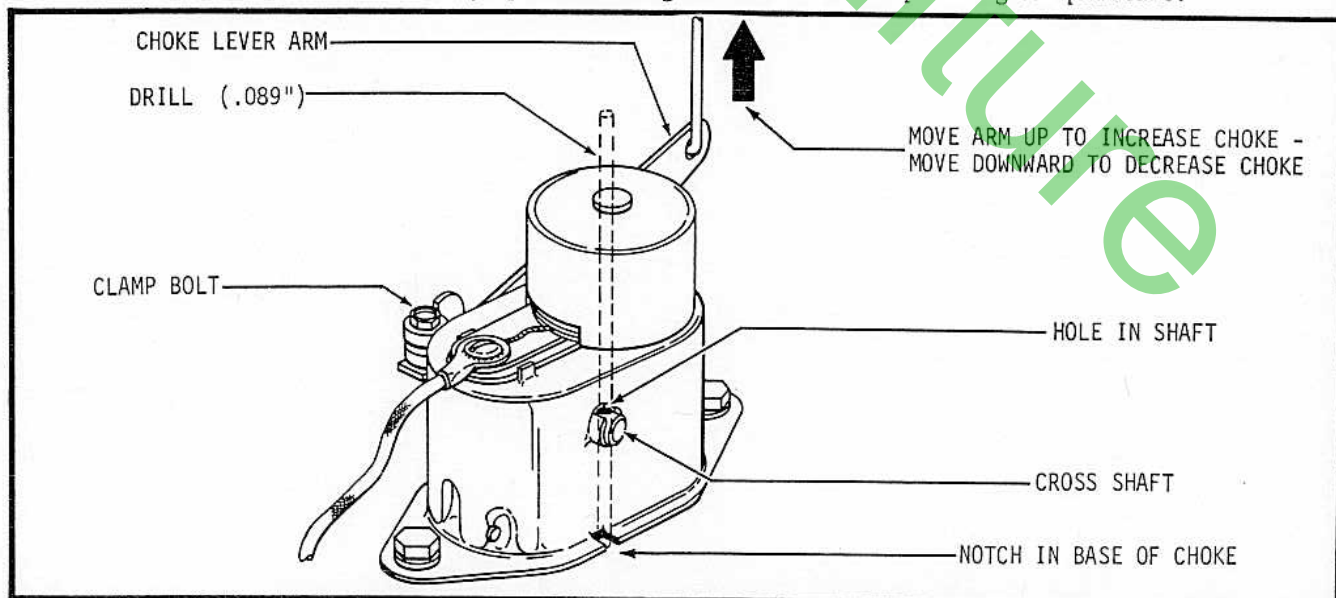

FIGURE 14-7 -- ELECTRIC-THERMOSTATIC AUTOMATIC CHOKE
2. Insert #43 drill (.089) and push all the way down to engine manifold to engage in notch in base of choke unit (See Figure 14.7).